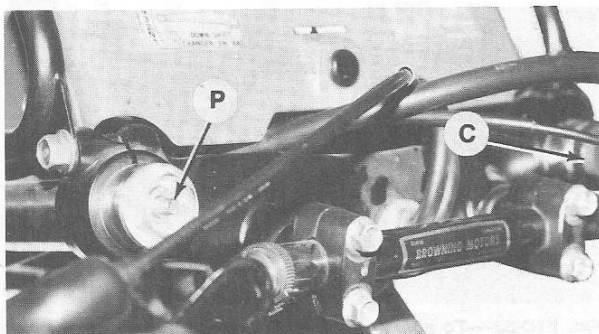

Fig. Y10-25—Remove protective cap (C) on top of each fork tube for access to air pressure poppet valve (P).
To check air pressure within the front forks, first position vehicle on a level surface. Remove protective caps (C—Fig. Y10-25) on each side and push inner poppet valves (P) to open chambers. Relieve any excess air pressure, then release inner poppet valves (P) and reinstall protective caps (C).
FLUID LEVEL. Fork fluid level should be maintained at 151 mm (5.94 in.) below top end of inner tube for standard setting. To check fluid level, proceed as follows: Apply front brake and bounce front of vehicle up and down a few times to expel any air within the fork oil. Remove both air valve protective caps (C—Fig. Y10-25) and push inner poppet valves (P) to release any air pressure on the system. Remove top plug (P) on left and right fork and withdraw short spring, washer and long spring in each fork tube. Fully compress forks, then use a tape measure or a suitable tool to measure distance from top end of inner tube to fork oil level. Add 10 weight fork oil or SEA #10 fork oil to obtain proper fluid level.